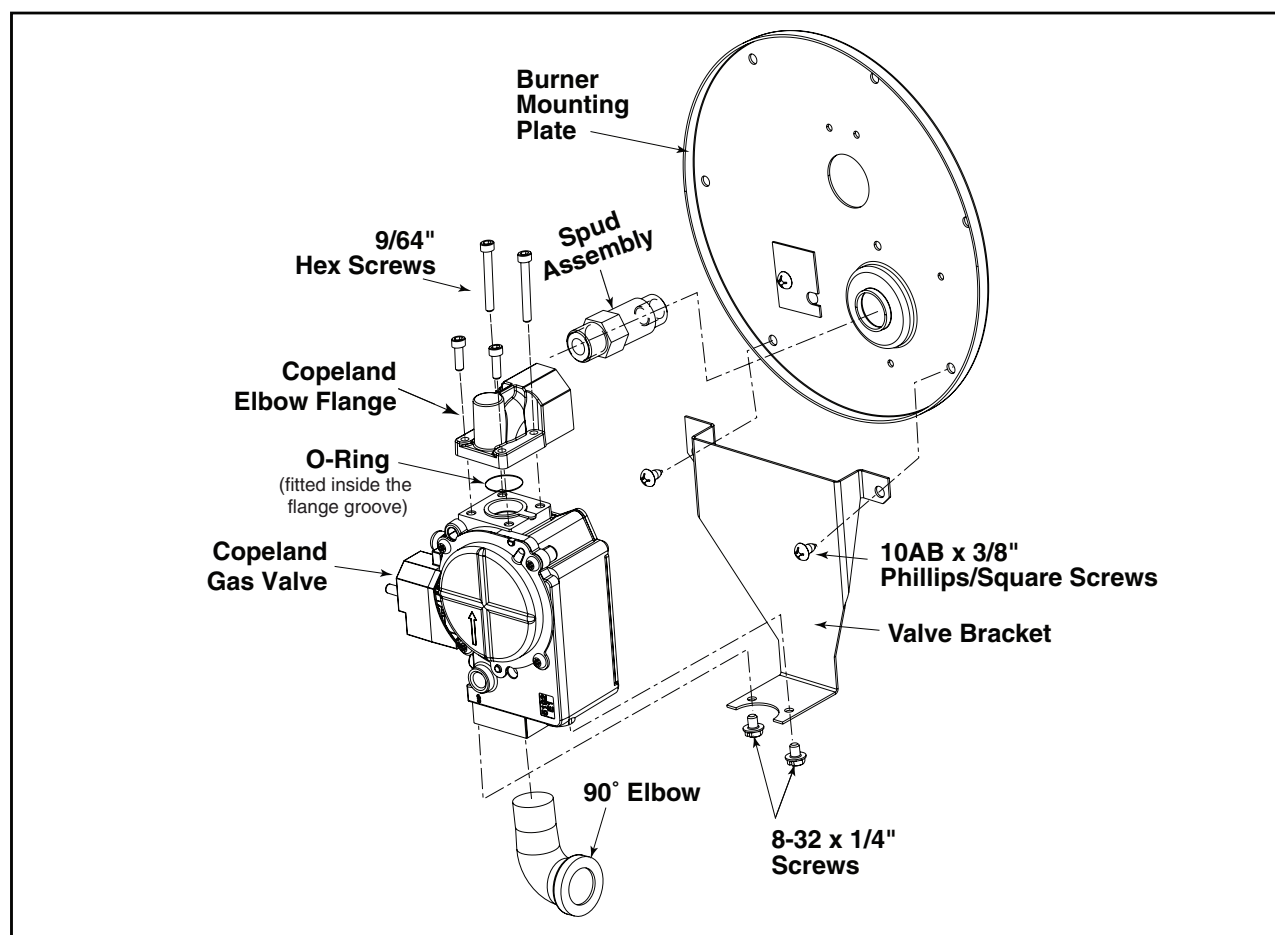

Figure 1. MG1E Burner Assembly
8. Mount the Copeland gas valve bracket on the inlet of the gas valve using the two 8-32 x 1/4 screws, as shown in Figure 1.